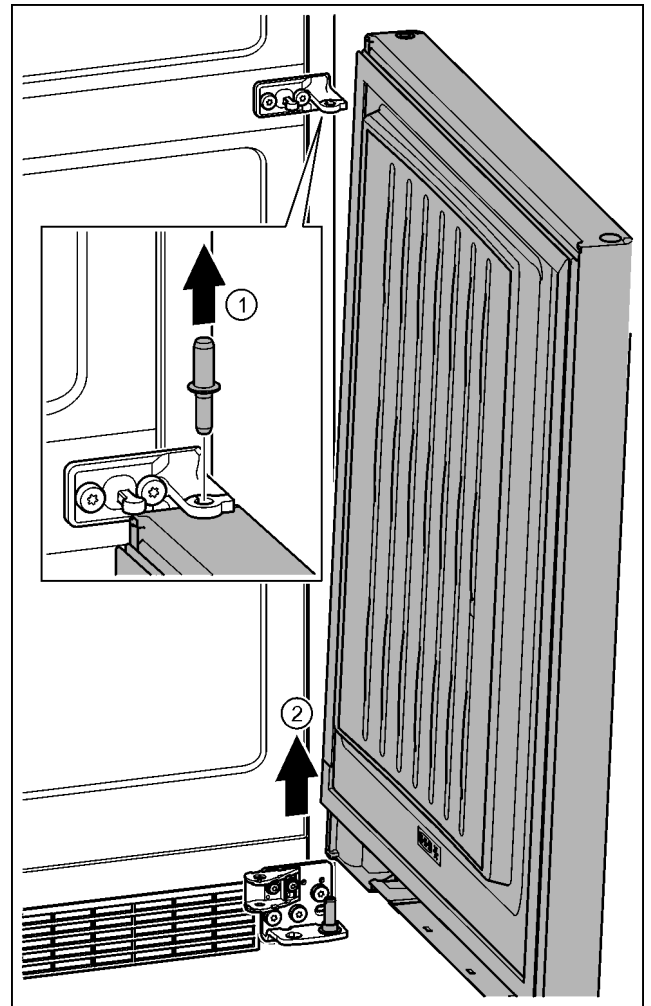

Fig. 27
- ▶ Pull out the bolts towards the top. *Fig. 27 (1)*
- ▶ Swing the door out, pull it upwards and set it aside. *Fig. 27 (2)*